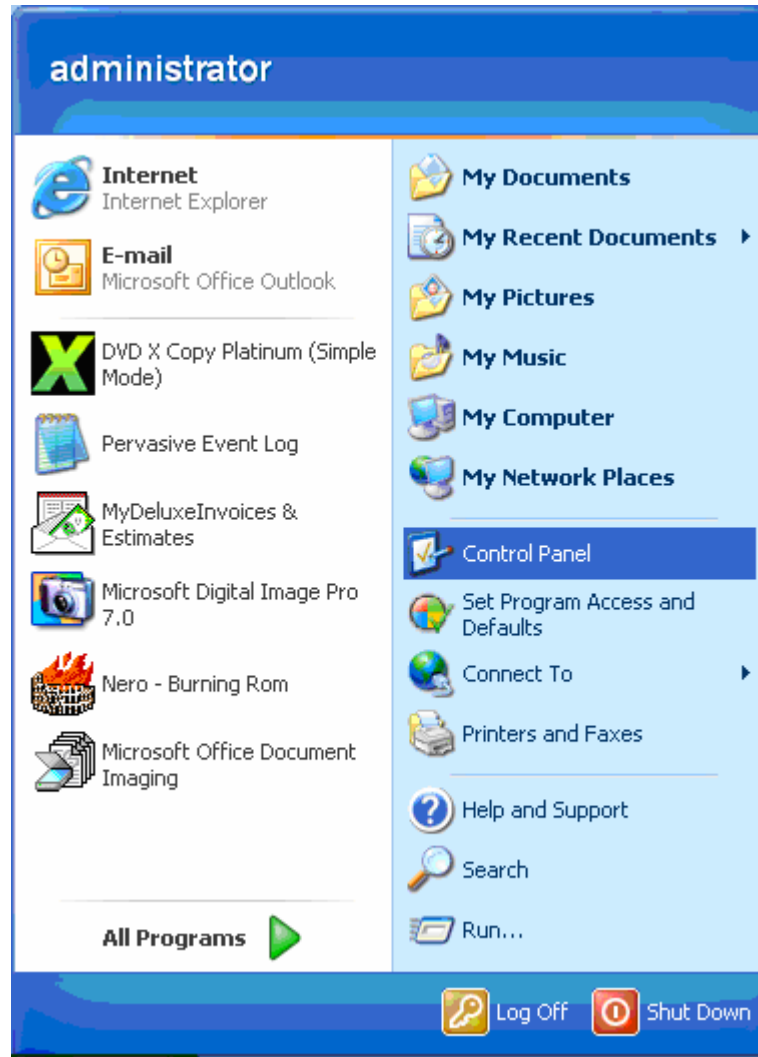

Figure 34
2. Click **Settings** and then click **Control Panel** (Figure 34).